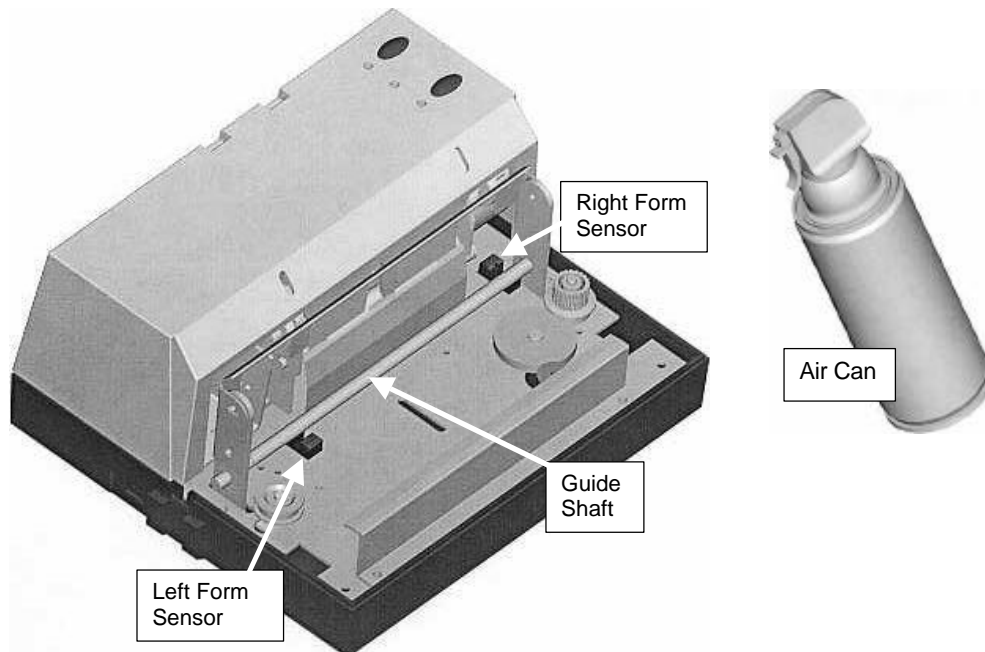

Figure 2. Compressed Air Cleaning
2. Using the Compressed Air Can, blow out any accumulated debris. Pay attention to the areas indicated in Figure 2.